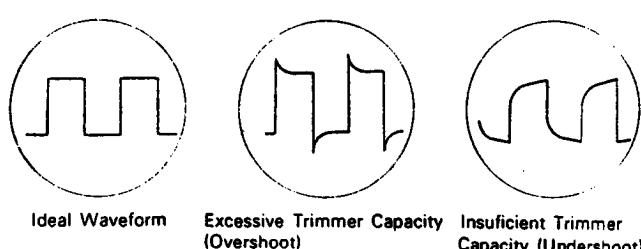

Fig. 11-2 V. ATT High-Frequency Response Compensation
1) Apply a 1 kHz square wave at approximately 50 mV, to the V. INPUT terminal. Set the V. ATT to 1 and the SWEEP RANGE to 100—1 kHz. Adjust the V. GAIN and SWEEP VARI/EXT GAIN for square wave amplitude of approximately 6 divs, and 2 ~ 4 cycles displayed. Check that the ideal waveform (as shown in Fig. 11-2) is displayed.
- 3) Set the V. ATT to 1/100 and increase the AG output level by 20 dB. Adjust TC102 for ideal waveform. Fig. 11-2 shows the relationship between waveform and trimmer capacity.